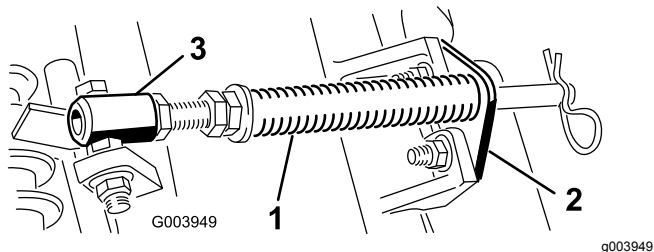

Figure 5
- A. Remove the 2 carriage bolts and nuts securing the rod bracket to the cutting-unit tabs (Figure 5).
- B. Remove the flange nut securing the spring-tube bolt to the carrier-frame tab (Figure 5) Remove the assembly.